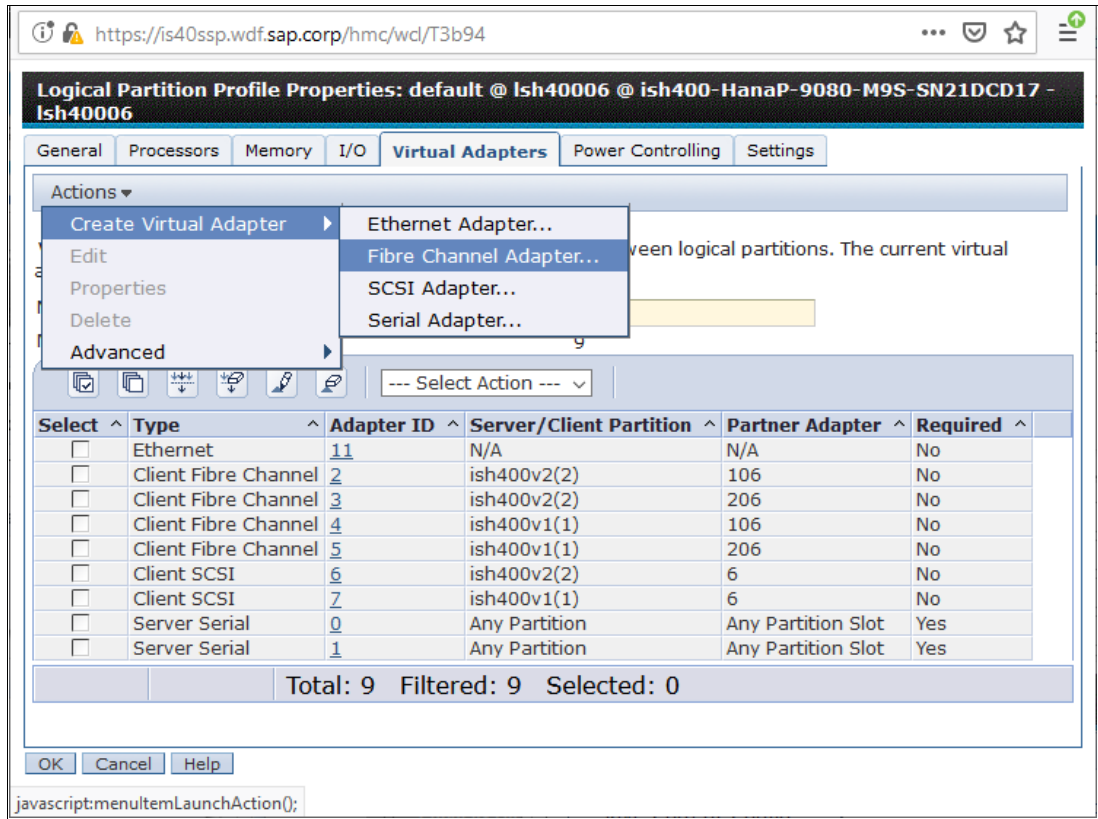

Figure 2-11 Assigning the virtual port on the HMC
- b. Click the profile name to edit it and select the **Virtual Adapters** tab in the Logical Partition Profile Properties dialog. Then, to create a virtual FC client adapter, select **Actions** → **Create Virtual Adapter** → **Fibre Channel Adapter**, as shown in Figure 2-11.